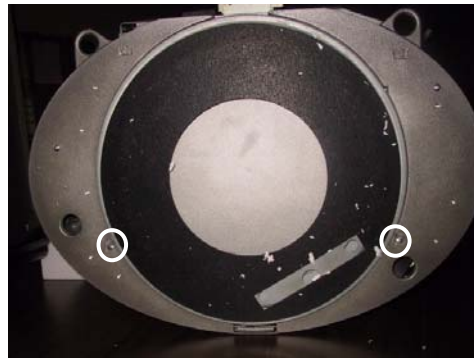

FIGURE 1 - SCREWS SECURING JOYSTICK ASSEMBLY TO BASE
2. Rest the game facedown to access the base. Protect and stabilize the front casing and monitor by prepping the area with cardboard, foam, etc. Remove the two larger screws (one on each side) that are securing the joystick assembly to the base. See Figure 1.